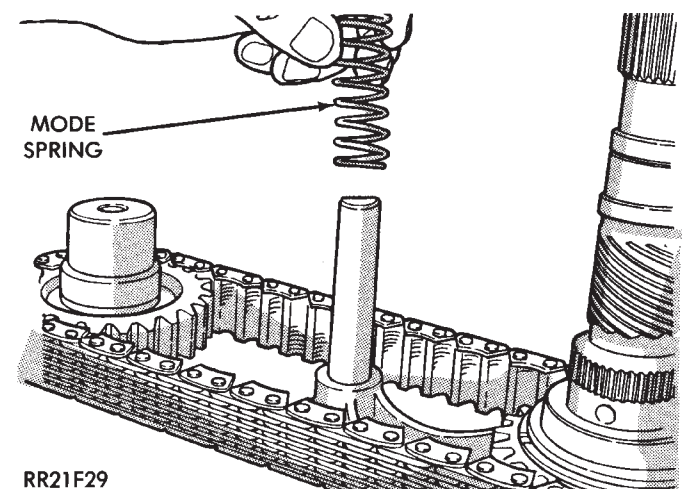

Fig. 54 Installing Mode Spring
- (38) Install mode spring on shift rail (Fig. 54).
- (39) If front output shaft rear bearing is to be replaced, install new bearing as follows: